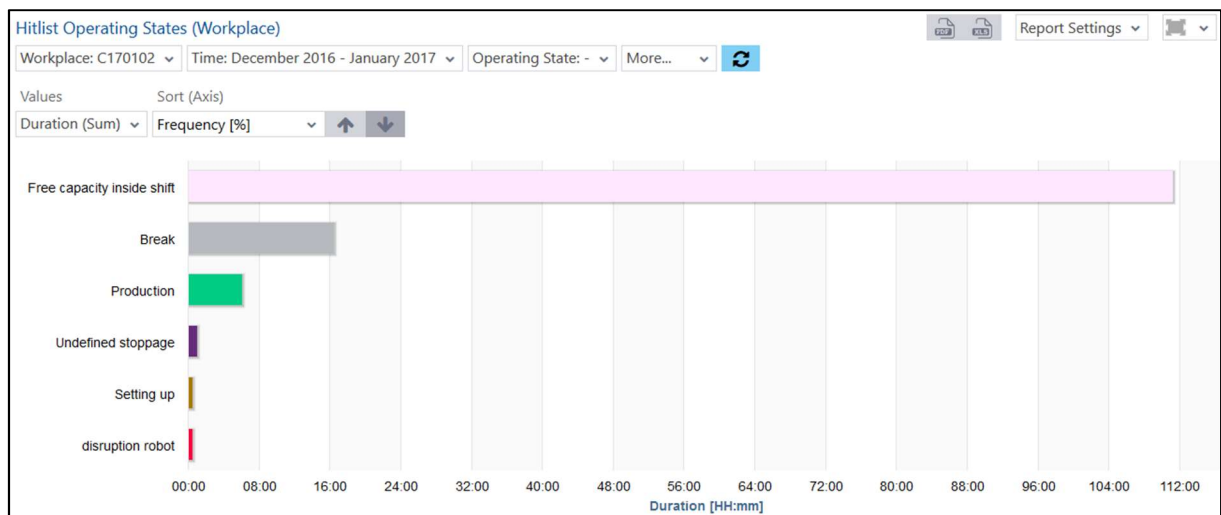

Fig. 59: Hitlist Operating States (Workplace) as a bar chart
- Hitlist Operating States (Workplace) as a bar chart (Fig. 59):